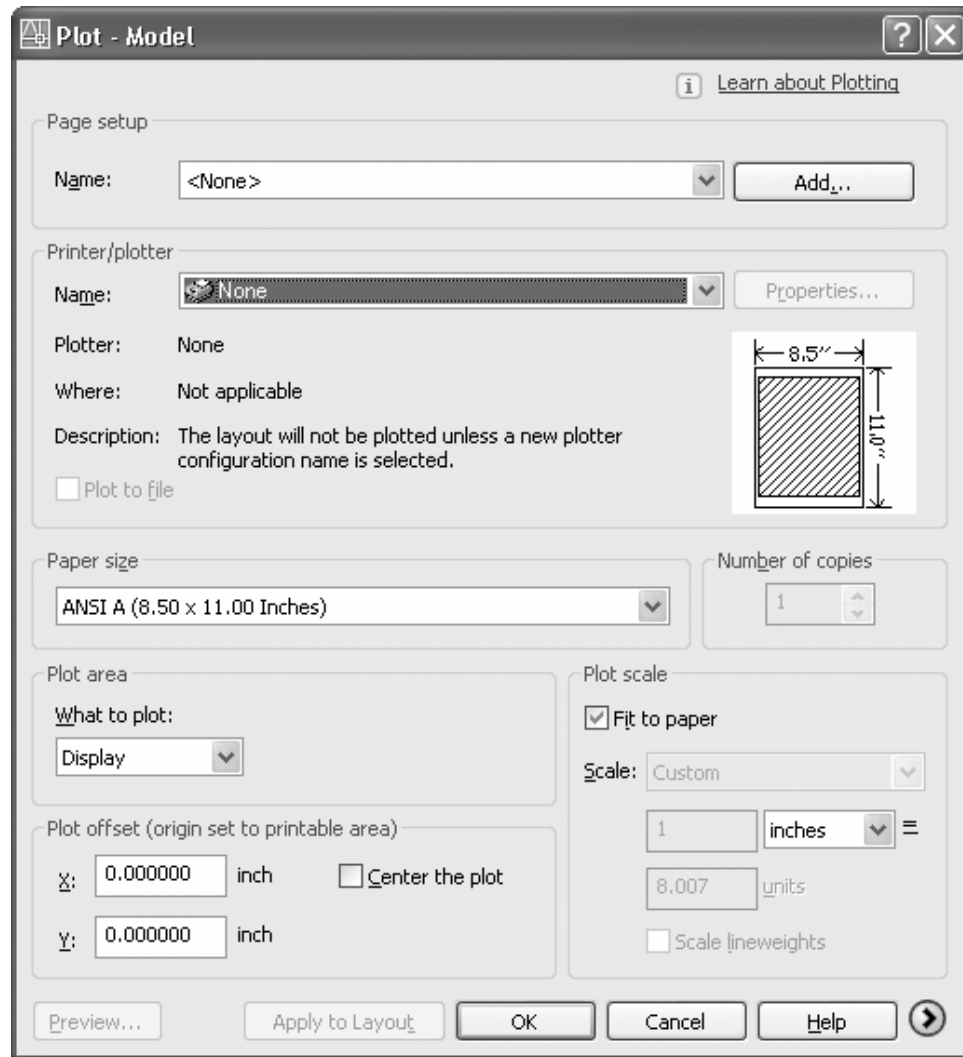

Figure 2-5.1 Plot Dialog Box; basic options
You are now in the *Plot Dialog* box. This is where you tell AutoCAD what printer or plotter to use, what scale and what size paper - to name a few examples. (Figure 2-5.1)
4. Make the following adjustments: (Figure 2-5.1)
5. Click the “more options” arrow in the lower right corner of the *Plot* dialog box. (Figure 2-5.1)